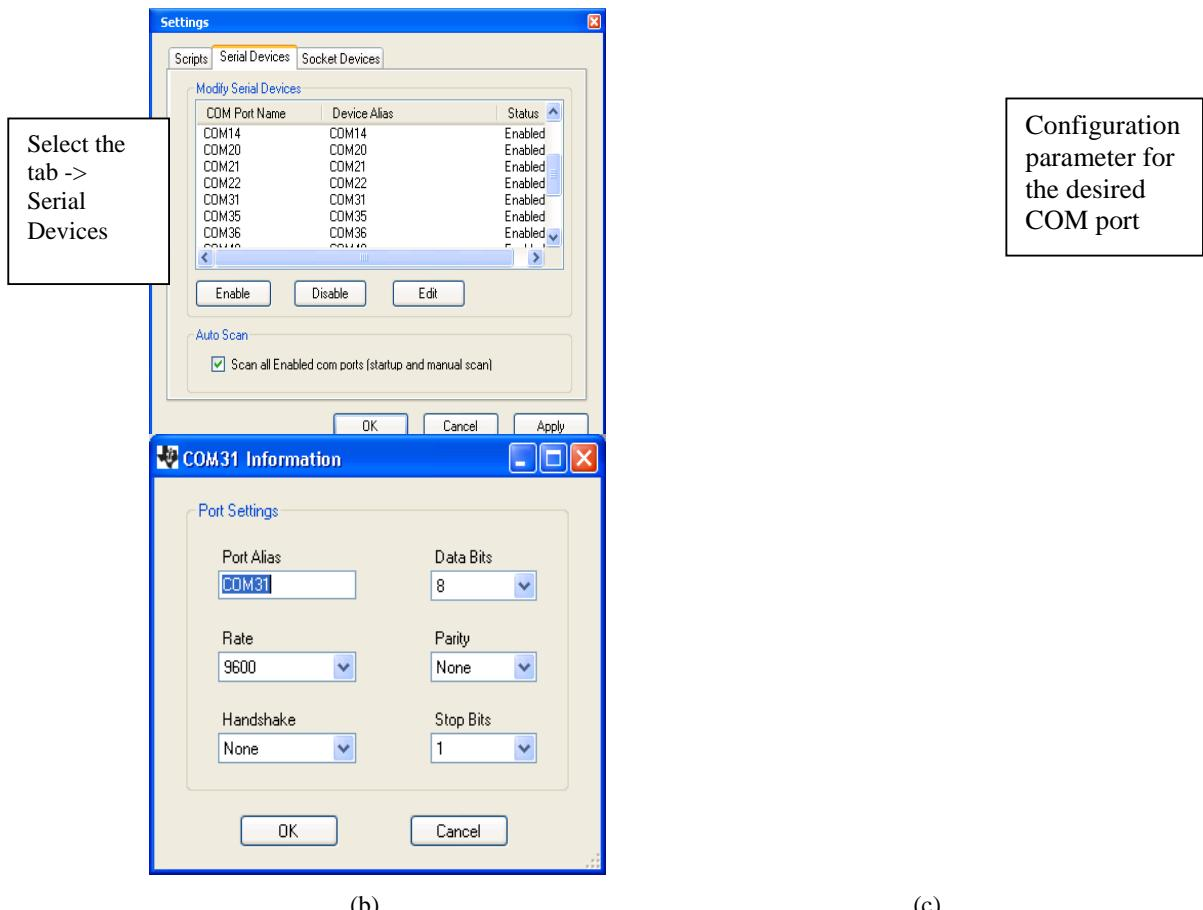

Figure 3: Steps illustrating the how to configure the configuration parameters for the COM port for communication with Z-Tool application.
3. Open Z-Tool. For the identified devices (ex- devices on COM31 and COM50 in this example) configure the communication interface parameters as shown in the figure 3 below